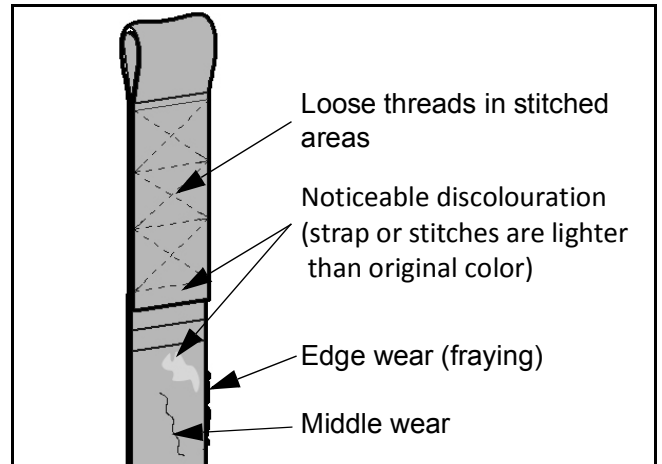

Fig. 10
- Inspect the strap for any visible signs of wear, frays, loose threads or other damage (see Fig. 10). If there is any evidence of damage, do not use it. Contact your local Joerns / Healthcare agent to have the lift serviced.
- 2) Look for any signs of wear or discoloration (see Fig. 10).